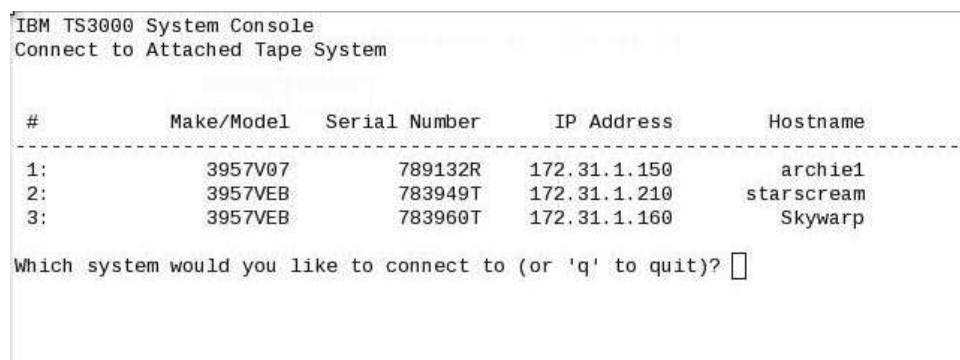

Figure 148. Connect to Attached Tape System – Selecting
2. From the Main Menu, select **System Console Actions > Connect to Tape System**. You see the screen shown in Figure 148.